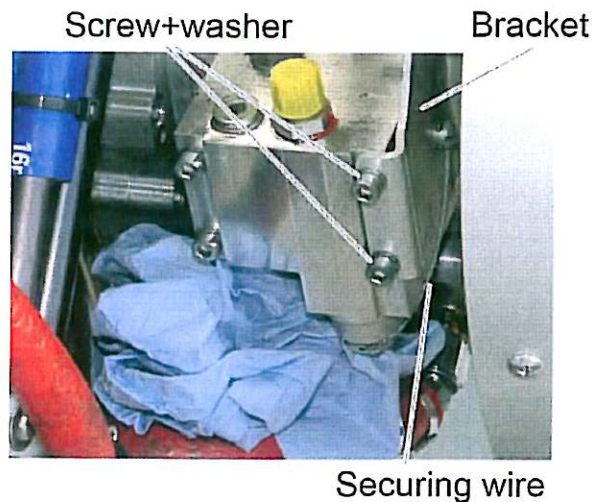

Figure 7
7. Remove the securing wire and detach the two screws and the two washers from the bracket at the right side of the Constant Speed Unit (CSU) and discard the screws and washers. See Figure 7.